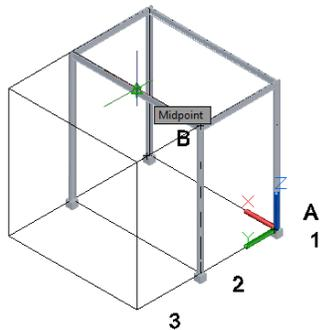

Figure 3-42 Model after creating the grid
- Rotate the model and select the midpoint on the top edge of the member, as shown in Figure 3-42; you are prompted to select the second point.